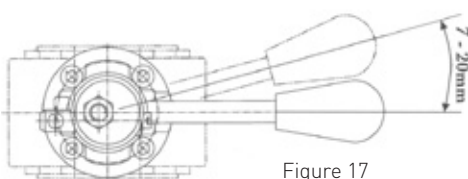
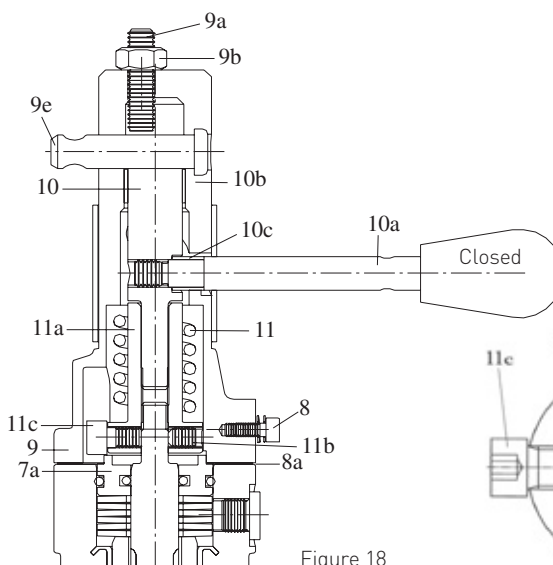

Figure 17
Figure 18
2. Bottle adaptor units only (spindle seal type A) (See Fig. 17 and Fig. 18)
Ensure that the handle lever has a lateral play of minimum 7 mm and maximum 20 mm (Refer to Fig. 17).